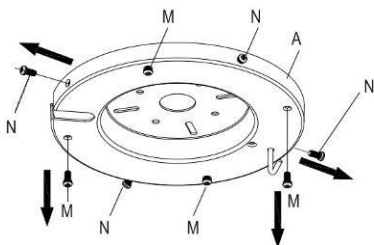

Figure 1
- There are 8 pre-installed screws (4 side-N; 4 bottom - M) on the mounting plate (A).
- Remove 2pcs opposite screws from the side and bottom of mounting plate(A), Figure 1.